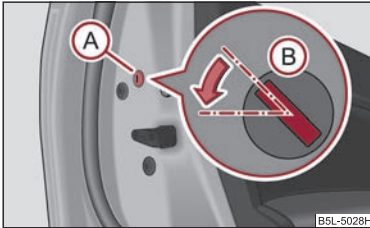

Fig. 27 Rear door: Emergency locking of the door
- Remove the panel (A) ⇒ fig. 27.
- Insert the key into the slot (B) and turn it into the horizontal position in the direction of the arrow (mirror-inverted on the right doors).